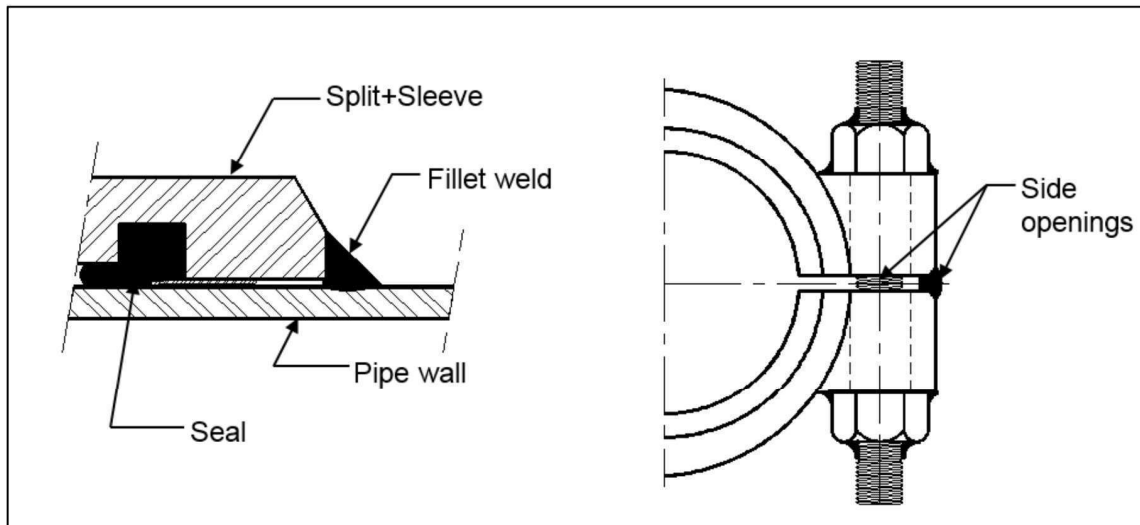

Figure 17
1. Fillet weld ends to pipe. (See Figure 17)